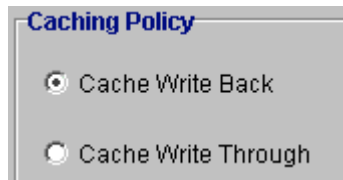

Figure 6-2: Caching Policy
- ◆ **Caching Policy** (choose one from *Figure 6-2*):